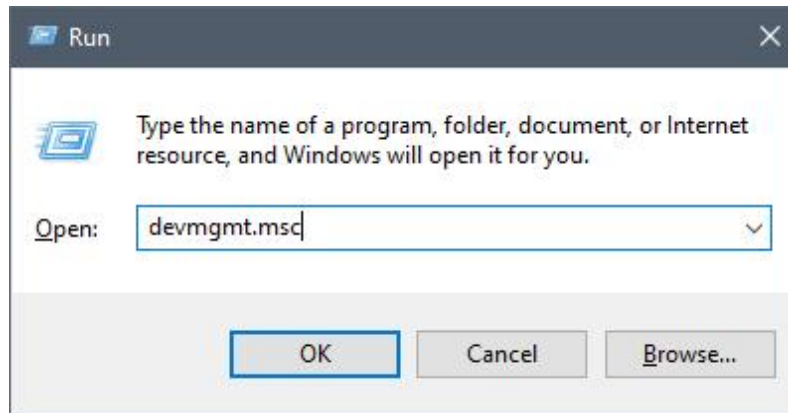

Figure 27: *Command and method to open Device Manager.*
2. Bring up the Microsoft Windows® Device Management Control. This can be achieved by either navigating through the graphical interface or by directly running the "devmgmt.msc" control file using the "Run" dialog shown in Figure 27. The "Run" dialog can be brought up by the key combination **Win** + "r".